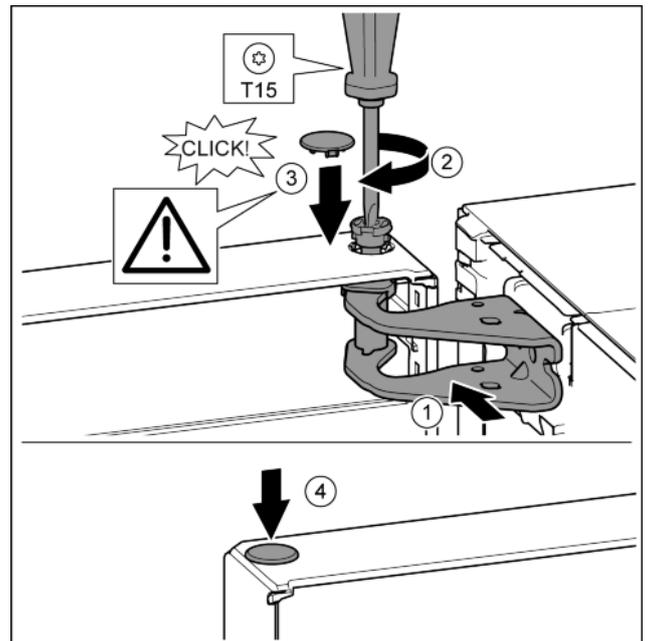

Fig. 16
- ▶ Align the top of the door with opening in the bearing bracket. Fig. 16 (1)
- ▶ Insert the bolt and tighten with a T15 screwdriver. Fig. 16 (2)
- ▶ Fit the protective cover to protect the door: Insert the protective cover and check that it is attached to the door. If not, insert the bolt fully. Fig. 16 (3)
- ▶ Insert the plugs. Fig. 16 (4)